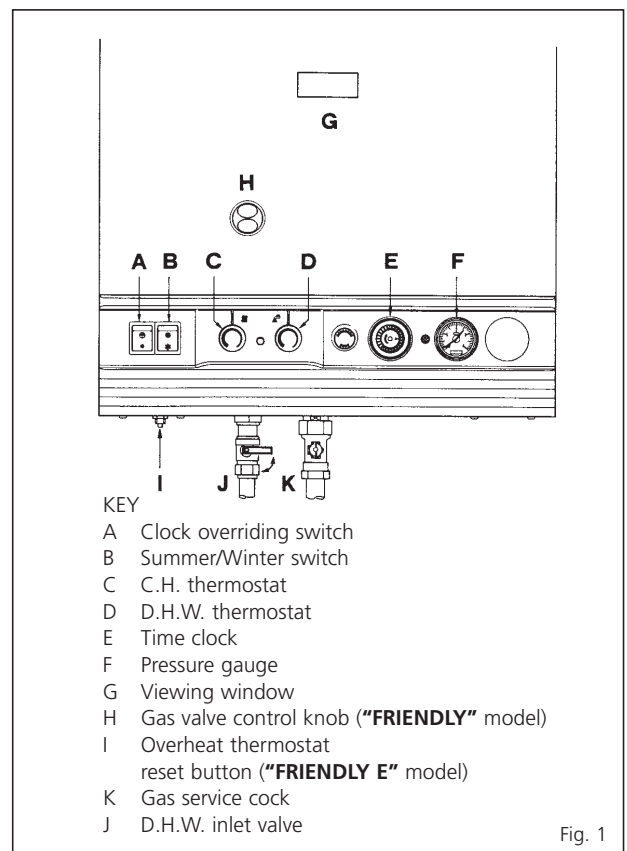

Fig. 1
1.3.1 To light the appliance (see fig. 1)
- Check that the electricity supply is off and that the D.H.W. isolation valve (J) is in the open position. Check that the gas supply is on.
- Turn the Summer/Winter switch (B) to SUMMER (water only) position "☀".
- For "FRIENDLY" model switch on the electricity supply. Fully depress the gas valve control knob (H) and hold in. After approximately 15 secs. a spark will light the pilot. After a further 20 secs. release the button and the pilot should remain alight (check through the viewing window). Fully open any D.H.W. tap and the burner will light. Turn off the tap.
- For "FRIENDLY E" model switch on the electricity supply and full open any D.H.W. tap. The burner will light. Check that the burner has lit by looking through the viewing window (G). If the burner fails to light, press the overheat thermostat reset button (I) once and the burner should now light. Turn off the tap.
- Check that the room thermostat (if fitted) is calling for heat and turn the clock overriding switch (A) to the ON position "●". Turn the heating thermostat (C) to maximum (fully clockwise).
1.3.2 To turn the appliance off (see fig. 1)
The gauge (F fig. 1) on the facia panel indicates the approximate system pressure. If the normal running pressure is seen to decrease over a period of time there is a water leak and you should consult your installer or service engineer.
NOTE: an interruption in the electricity supply whilst the burner is alight may cause the overheat thermostat to operate. If this is suspected, depress the reset button (I fig. 1) once (for "FRIENDLY" model).